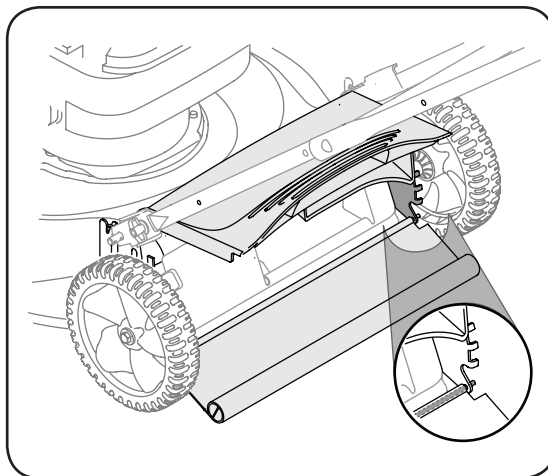

Figure 14
1. To remove the old rear flap, lift rear door, and press flap in on either side to remove from hole. See Figure 14.